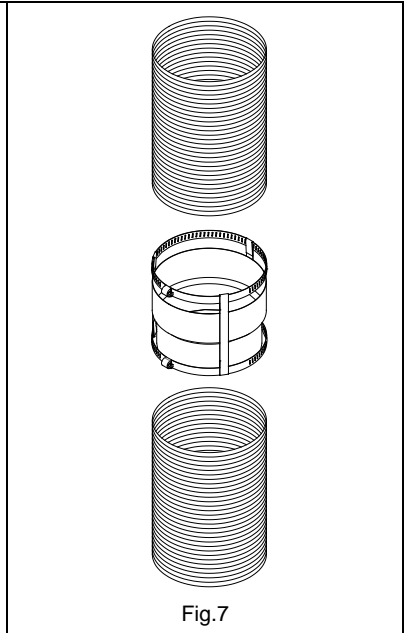

Fig.7
A Flex to Flex Adapter (FF) is also available to connect two sections of flexible liner together. No screws or rivets are required; simply tighten the collars which are part of the adapter (Fig.7).